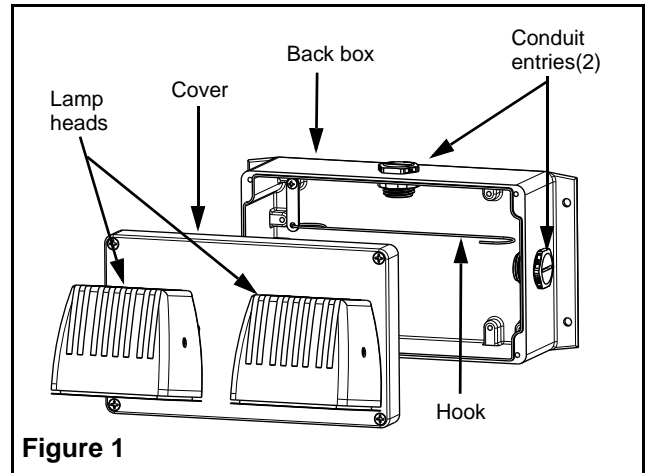

Figure 1
- a. Remove the cover from the back box (See figure 1). Select the entry point on the back box for the conduit (top or side) and remove one of the plastic bushings.